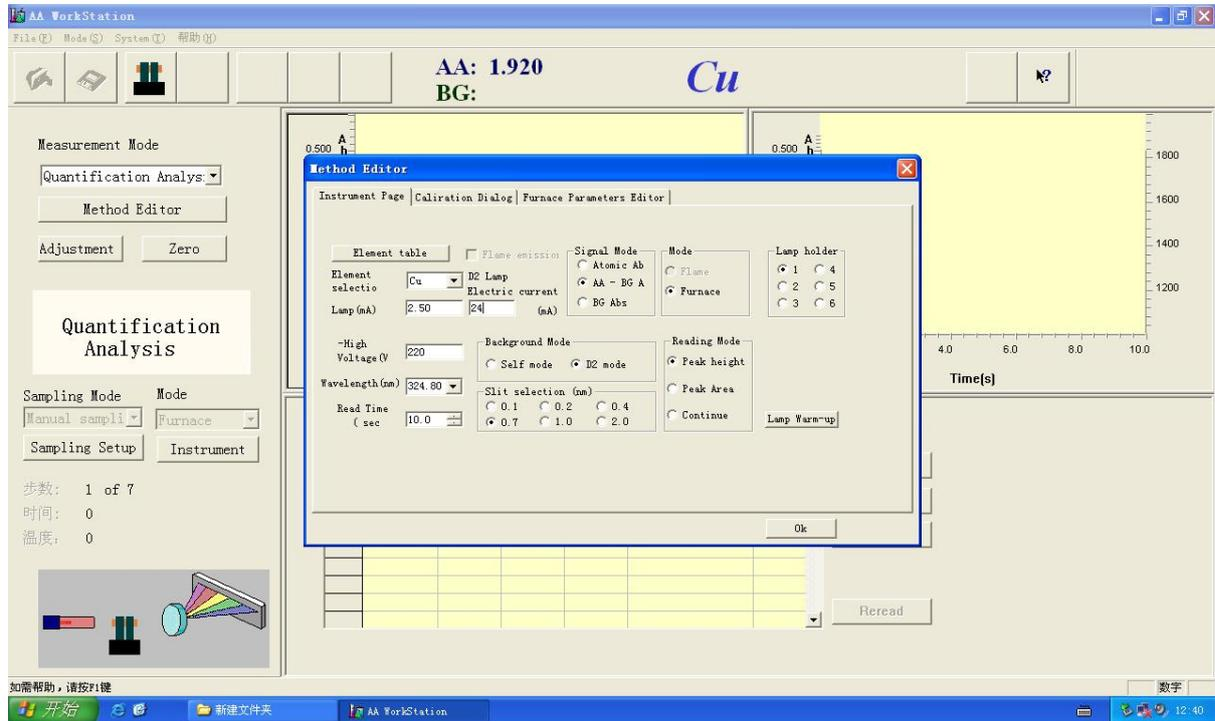

Figure 4-22
1) Select the "D2 mode" on "Background Mode", input the current value into the text box. The value is between 24-93mA, the default value is 24mA (Figure 4-22)